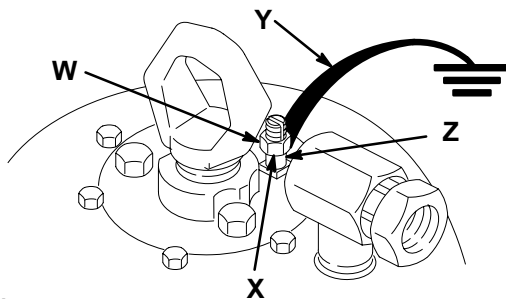

Fig 1
To ground the pump, loosen the grounding lug locknut (W) and washer (X). Insert one end of a 1.5 mm² (12 ga) minimum ground wire (Y) into the slot in lug (Z) and tighten the locknut securely. See Fig 1. Connect the other end of the wire to a true earth ground. See **ACCESSORIES** on page 16 to order a ground wire and clamp.
1. *Pump:* use a ground wire and clamp. See Fig 1.
The reference numbers and letters in the text refer to the callouts in Figures 1–3 and the Parts Drawings.